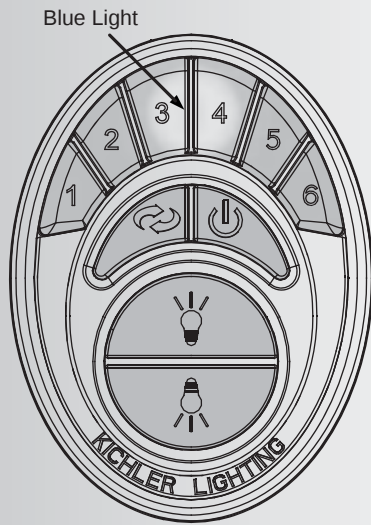

Fig. 22
3. Test the transmitter by pushing and releasing ANY button briefly. A Blue Light should illuminate under the 3-4 buttons. (Fig. 22) If not, check to make sure the batteries are inserted and seated correctly.